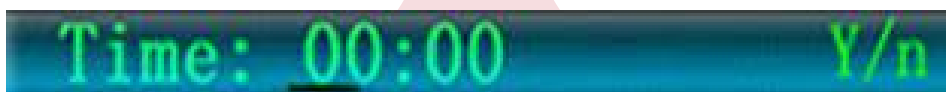

Figure 9
- a.** From the "Settings Menu", Click the power button to select "Record", then Press the power button to enter the start time of data storage test (see figure 9).